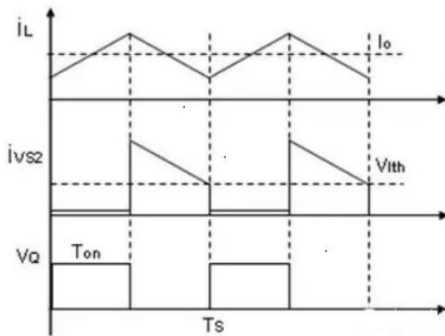

Figure 2
(2) When the high-side switch is turned off, the low-side switch is turned on, and the inductor begins to demagnetize, and the inductor current decreases linearly. Similarly, the current of the low-side switch also decreases linearly with time. The current detection resistor is the on-resistance of the low-side switch, so the voltage signal of the current detection signal also decreases linearly. At this time, since V_c is lower than V_s , the current comparator output is low. The high-side switch remains off, while the low-side switch remains on.
(3) When the voltage signal of the current detection resistor continues to decrease until V_c equals V_s , the output of the current comparator is reversed from low level to high level. The logic control circuit works. The low-side freewheeling switch is turned off, while the high-side power switch is turned on, meanwhile, a trigger signal is sent to the timer to start the timer. After the high-side switch is turned on, the inductor starts to be magnetized, and the current rises linearly. The whole process enters the next cycle, and so on repeatedly. As shown in Figure 2.